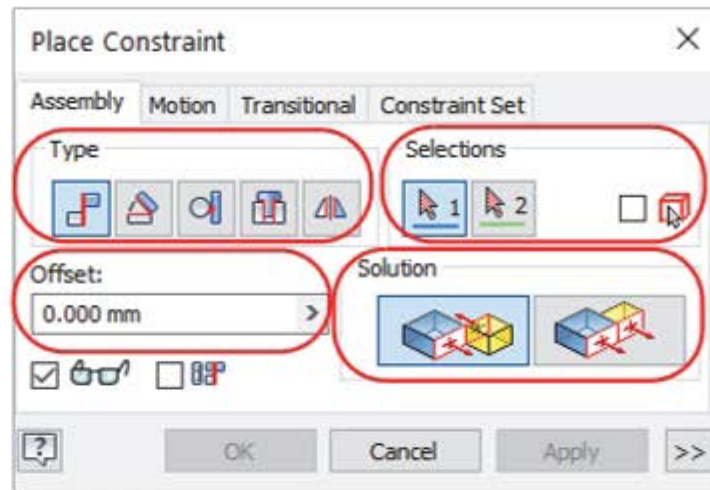

Figure 16–55
3. How many rotational degrees of freedom (R) and translational degrees of freedom (T) does an unconstrained part or subassembly have?
4. In the Place Constraint dialog box, four areas are circled, as shown in Figure 16–55. Which area enables you to assign a constraint between two parallel surfaces as **Flush**?